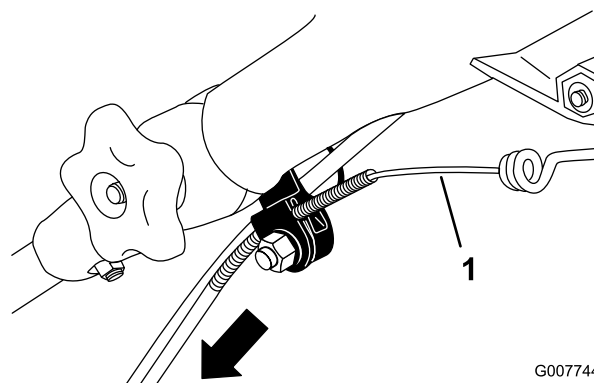

Figure 37
3. Pull the cable jacket downward until you remove the slack in the exposed cable (Figure 37).